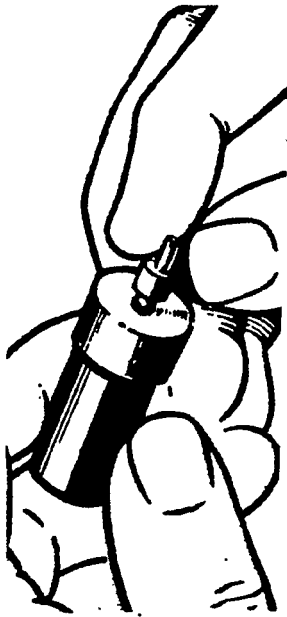

FIGURE 67. SLIDE TEST
2. Insert valve in nozzle body, Figure 67.